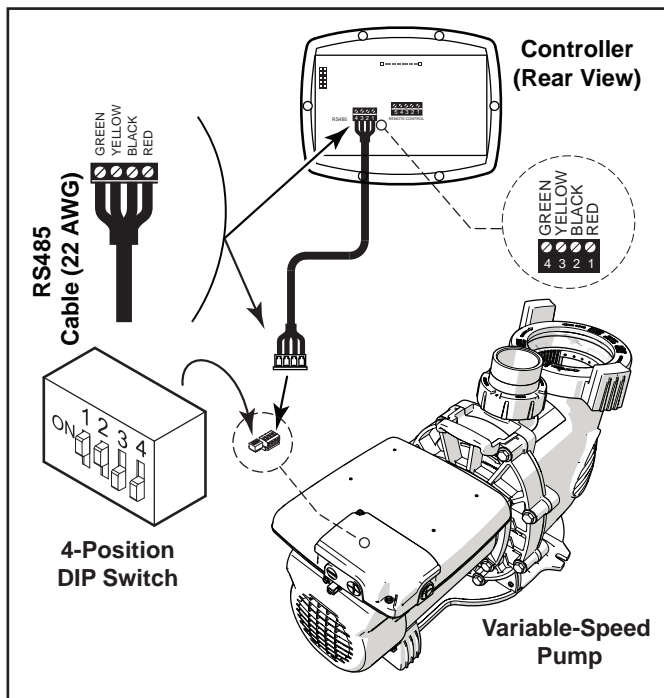

Figure 6. Wiring JEP-R VSP Controller
4. Attach the four (4) RS-485 cable wires to the RS-485 connector. Match the wire colors with the positions on the connector: See “Figure 6. Wiring JEP-R VSP Controller”
6. Dip switches 1 and 2 must be in the ON position, and switches 3 and 4 must be in the OFF position. See “Figure 6. Wiring JEP-R VSP Controller”
7. Connect the other end of the cable to the controller. Match the colors of the wires with the appropriate connector positions. See “Figure 6. Wiring JEP-R VSP Controller”